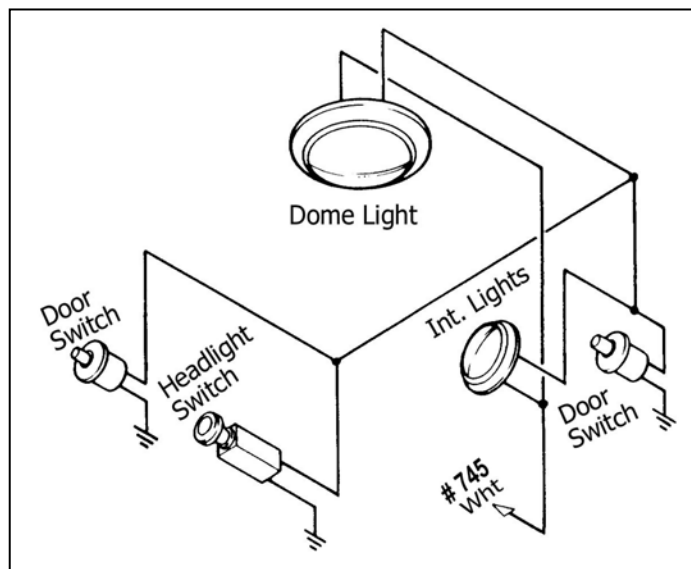

Figure 7.3 Interior Lighting
7.5 Interior Lighting. See Figure 7.3.